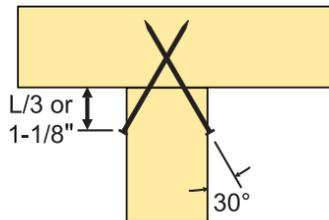
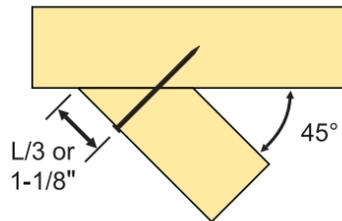

Figure 2. End jack to hip girder.
Figure 3. Corner jack to corner girder.
(NDS®) for Wood Construction. The capacities listed can be used for toe-nailed connections for attaching a 2x\_ end jack truss to a single or multiple 2x\_ hip girder truss (see Figure 2 on page 16) or for toe-nailed connections for attaching a 2x\_ corner jack truss to a corner girder truss that intersect at a 45° angle as shown in Figure 3. Please note that the connection between the corner jack and corner girder assumes that the chords of the jack truss are bevel cut and that the nails are driven at a 90° angle to the face of the jack into the girder
- Nominal lateral capacities are based on framing conditions depicted in Figures 2 and 3.
In both cases, the nails are assumed to be installed at either L/3 (i.e. length of nail divided by 3) or 1-1/8" from the end of the jack truss (see Figures 2 and 3 above).